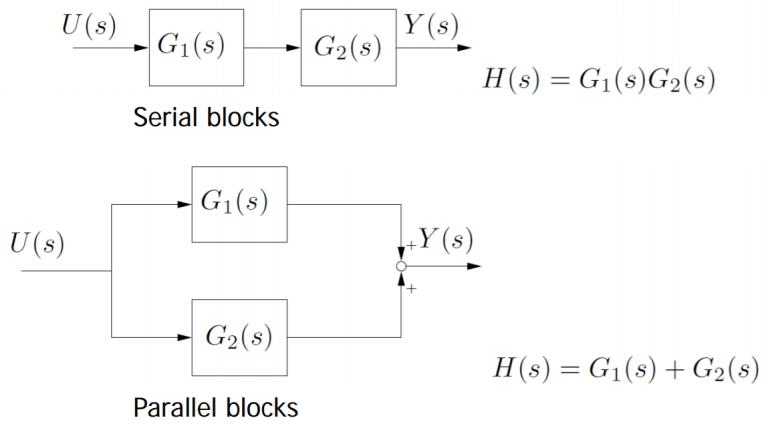

Figure 3.24: Serial and parallel blocks.
There are five basic ways to manipulate block diagrams. The first three are rather obvious. Blocks in series and parallel can easily be combined (these are the first two ways), as shown in figure 3.24.
- The second closed loop will be substituted with (it is the simple summation of two blocks in parallel, see figure 3.24)